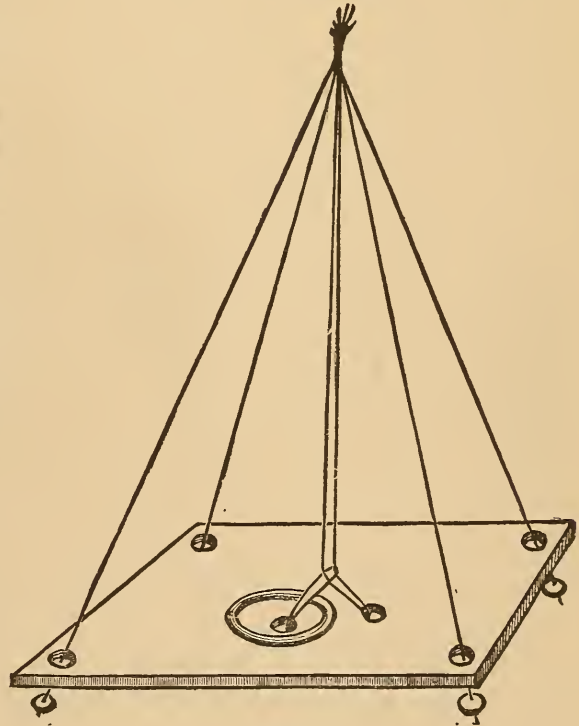

Fig. 1.
(1) *The Balance Puzzle.*—Cut a piece of cardboard four inches square. In the middle punch two holes, and punch a hole also in each corner. Take four pieces of thread eight inches long and knot the ends together; then pass one thread through each corner hole of the card and fasten them there by tying a bead to each. Now take another piece of thread eighteen inches long and double it in the middle, then pass the loop down through one of the holes in the middle of the card and up through the other hole, and pass the loop through a small ring. Next pass the ends of the thread through the loop and draw it tight, and fasten the ends to the knot joining the four other threads (Fig. 1). The puzzle is to get the ring off the threads without cutting them.